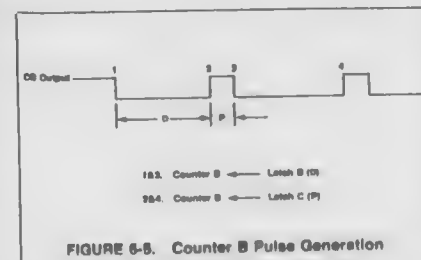

FIGURE 6-5. Counter B Pulse Generation
2. The lower 8 bits of D are loaded into LLB by writing to address 001C; the upper 8 bits of D are loaded into ULB by writing to address location 001E. Writing to address location 001E also causes the contents of the 16-bit Latch B to be downloaded into the Counter B and the CB output to go low as shown in Figure 6-5.